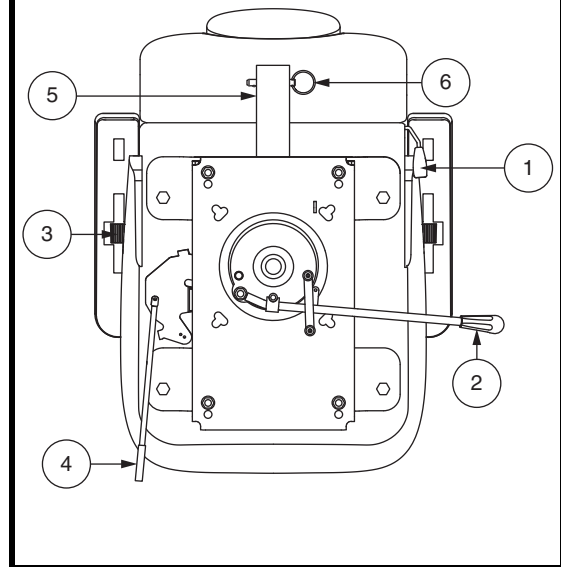

Figure 17. Seatback Adjustment
To adjust your scooter's reclining seat, you can adjust the seatback angle with the seatback adjustment lever. See figure 17.
1. Pull upward on the seat rotation lever to disengage the seat. **See figure 17.**
Armrest angle of your scooter can be adjusted upward or downward by turning the adjustment dial. **See figure 17.**
1. Move the seat sliding lever located at the lower left side of the seat outward. **See figure 17.**
The rear-mounted accessory bracket allows you to attach a personal accessory such as a basket, walker holder, or oxygen tank to the back of your scooter. Utilize the detent pin to securely mount your item to the accessory bracket. **See figure 17.** See your authorized Provider for details.